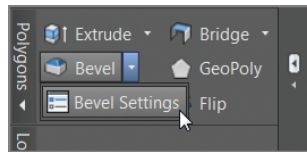

FIGURE 2.9 Bevel Settings will bring up the caddy for parameter input.
3. On the Polygons panel in the modeling ribbon, click the arrow under the Bevel button. Then select Bevel Settings, as shown in Figure 2.9. This will open the Bevel caddy, which is a dialog box for inputting your bevel parameters.